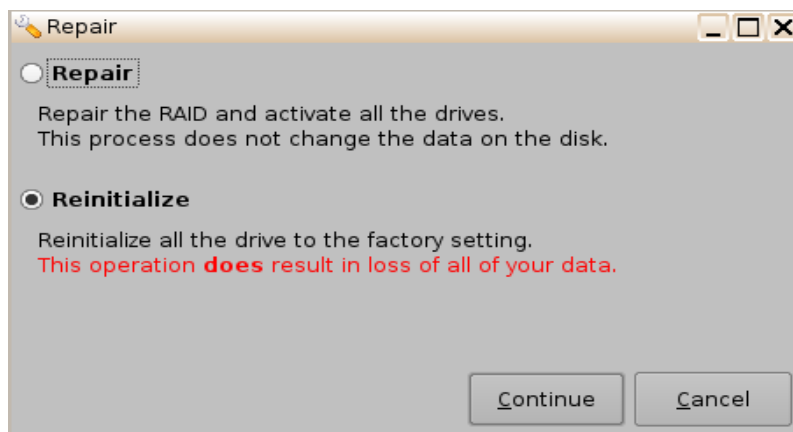

Figure 23: RAID Repair Window
- The Repair window will appear (Figure 23).